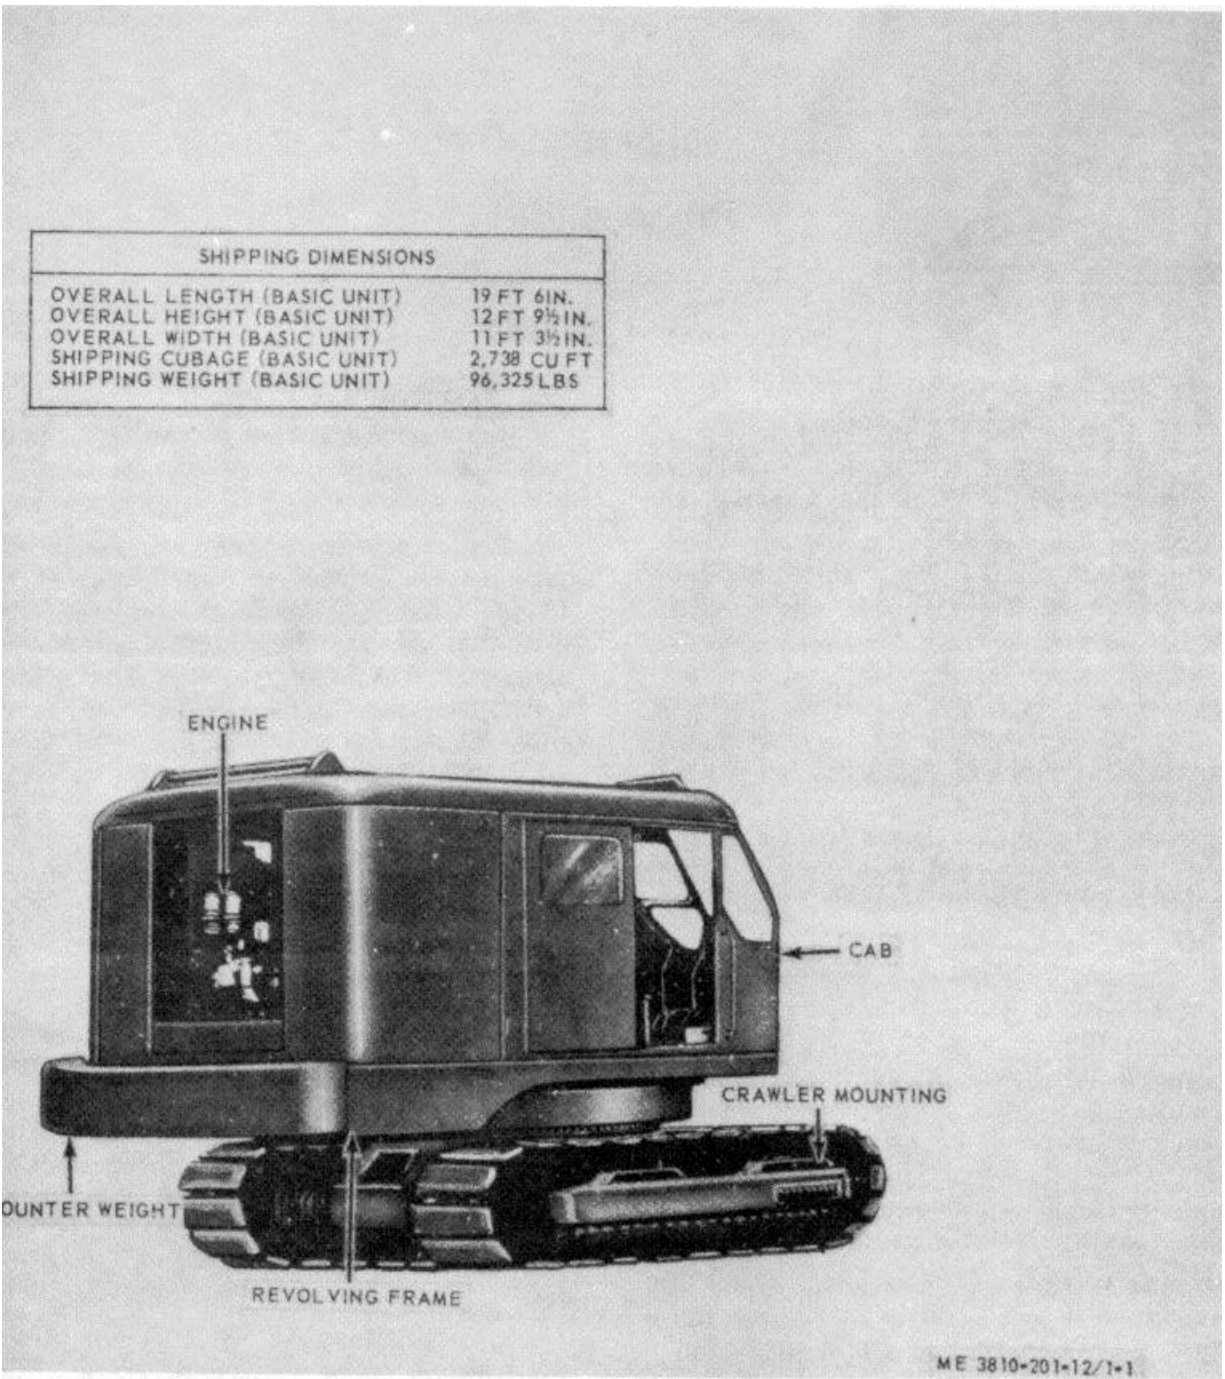

Figure 1-1. Crane-shovel basic unit, non-winterized, right $\frac{3}{4}$ rear view, and shipping dimensions.
b. *Revolving Frame.* The revolving frame (fig. 1-1) upon which are mounted the engine, upper machinery, and gantry, revolves around a center gudgeon and a live roller circle mounted on the crawler. It carries four hook rollers (two in front and two at rear), which ride on the underside of the roller path, and prevents tipping of the rotating base. A counterweight is fastened at rear of revolving frame. A gantry frame which contains gantry sheaves and harness is mounted on the revolving frame, along with a collapsible high gantry which is provided for use in crane, clamshell, dragline, or piledriver service.
c. Cab. The cab (fig. 1-1) completely encloses all machinery on the revolving frame. It consists of rigid steel frame work and panels. Several